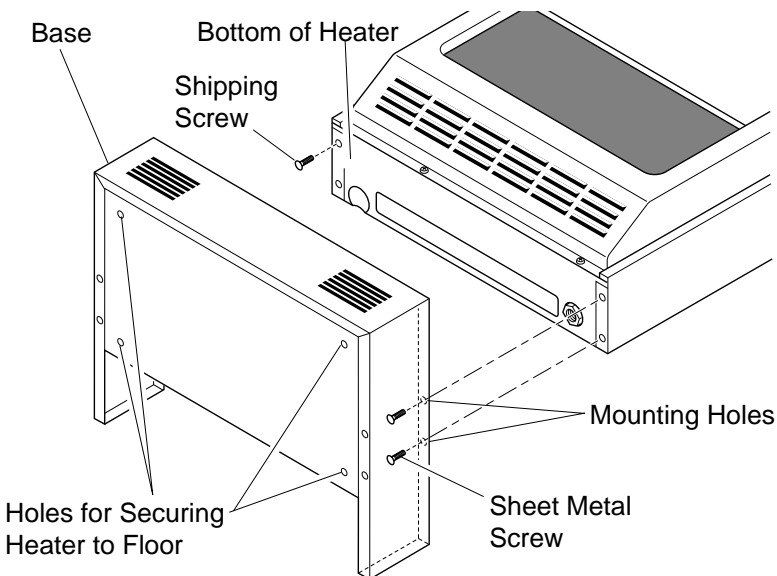

Figure 18 - Attaching Heater to Hearth Base
1. Position hearth base in desired location. Mark holes for drilling (See Figure 18, page 17). Remove hearth base.
3. Line up mounting holes on top of hearth base with holes in bottom of heater (see Figure 18).
4. Using a Phillips screwdriver, secure hearth base to heater with four sheet metal screws (see Figure 18).